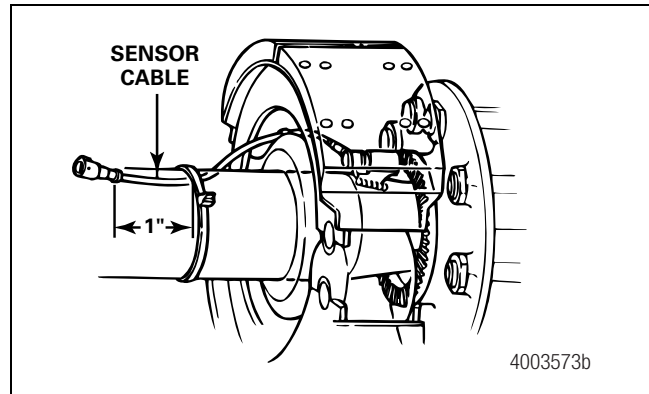

Figure A-5
4. Route the sensor cable toward the brake chamber, over the brake spider or through the pre-stamped hole dedicated for ABS sensors. Route to the back side of the axle. Secure the cable to the axle between the brake spider and the suspension brackets. Continue to route the sensor cable behind the spring seats. Secure the cable to the axle one inch from the molded sensor plug. Figure A-5.